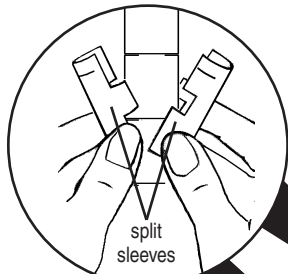

figure 3a
- Attach split sleeves to bottom groove of "U" handle legs (see *figure 3a*).